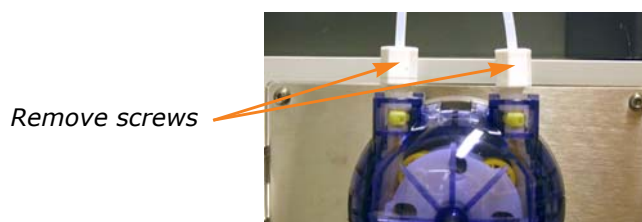

Figure 4-11. Remove the Inlet and Outlet Tubing
5. Remove the inlet and outlet tubing by removing the two screws; see Figure 4-11.